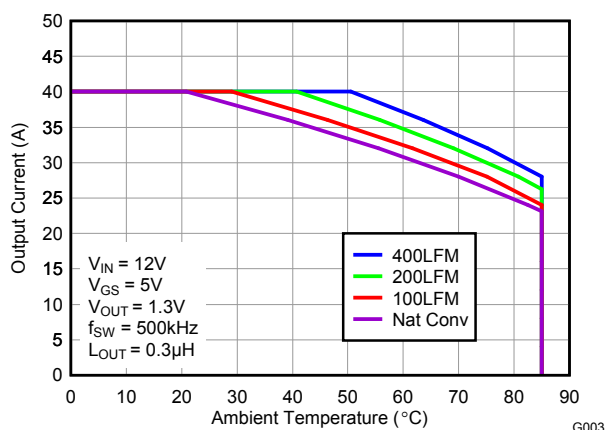
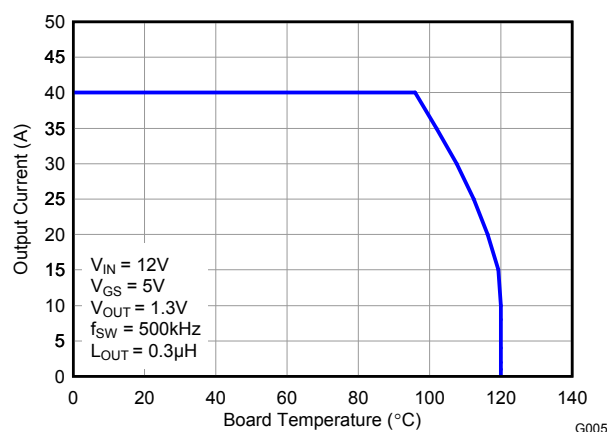

Figure 3. Safe Operating Area – PCB Vertical Mount(1)
Figure 5. Typical Safe Operating Area(1)
The SOA curves in the CSD86350Q5D data sheet provides guidance on the temperature boundaries within an operating system by incorporating the thermal resistance and system power loss. Figure 3 to Figure 5 outline the temperature and airflow conditions required for a given load current. The area under the curve dictates the safe operating area. All the curves are based on measurements made on a PCB design with dimensions of 4" (W) x 3.5" (L) x 0.062" (T) and 6 copper layers of 1 oz. copper thickness.